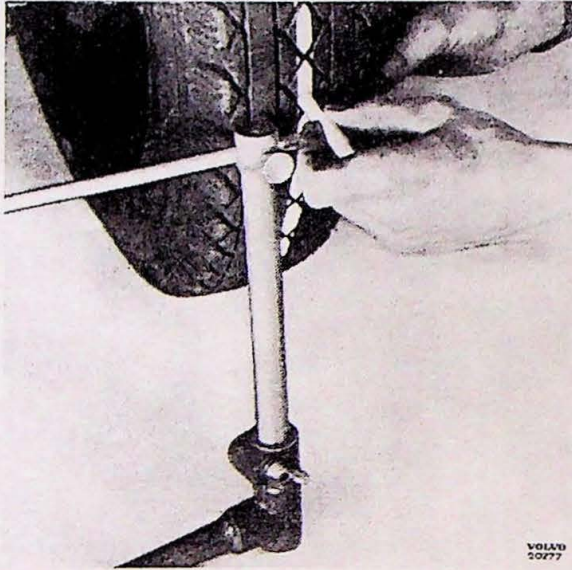

Fig. 40.
3. Spin front wheels and hold a piece of chalk against the centre of the thread and the pointer in accordance with fig. 40 and 41.